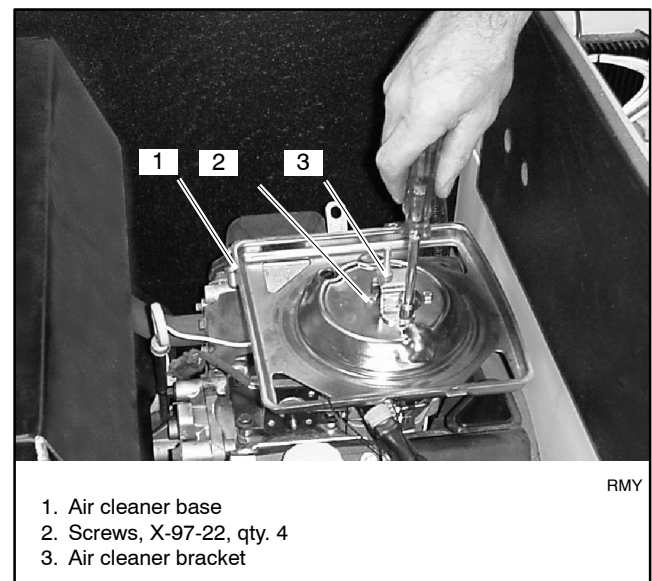

Figure 2 Air Cleaner Bracket and Screws
- d. Remove the screws that attach the air cleaner bracket and base to the carburetor assembly. The four screws will not be reused. Remove the bracket and base. See Figure 2.